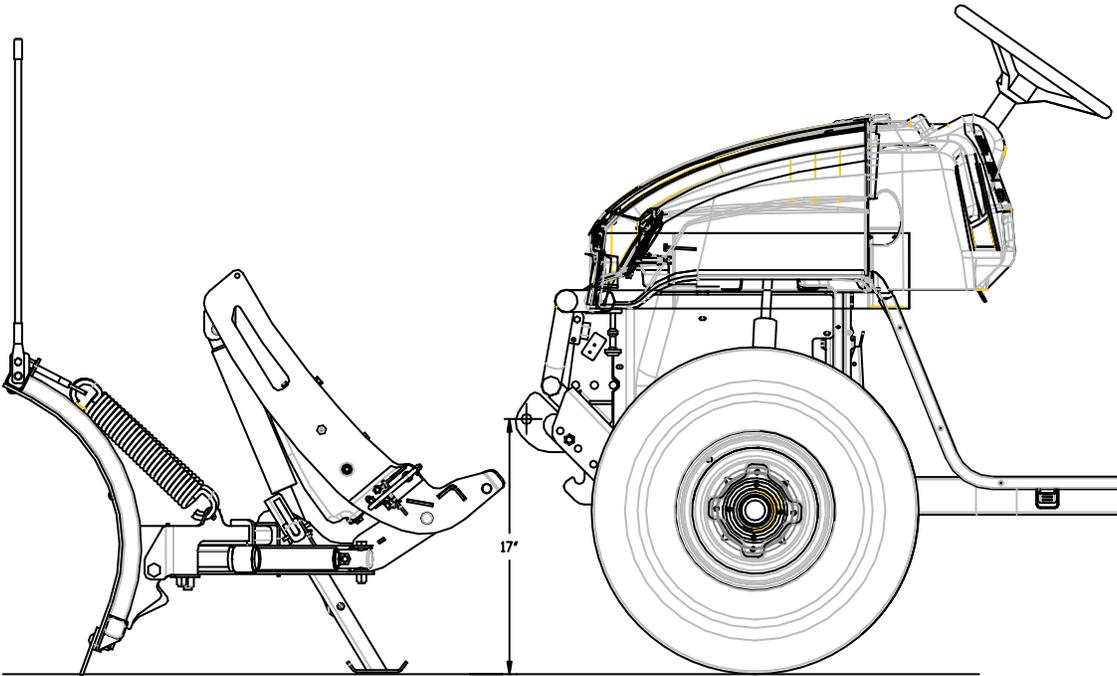

Figure 2
1. Align the holes in the Skid Plate Assembly (75) with the holes in the Front Bumper. Using (4) ½"-13 X 1-1/2" Hex Head Bolts (B) and ½" Nylon Lock Nuts (E), attach the Skid Plate. Leave finger tight.
2. On the bottom of the Skid Plate Assembly (75), mark where the two bolt holes meet with the bottom of the Front Bumper. Remove Skid Plate Assembly (75)
4. Align the holes in the Skid Plate Assembly (75) with the holes in the Front Bumper. Using (6) ½"-13 x 1-1/2" Hex Head Bolts (B), (2) 5/8"-11 x 1-1/2" Hex Head Bolts (A), (6) ½"-13 Nylon Lock Nuts (E), and (2) 5/8"-11 Nylon Lock Nuts (D), attach Skid Plate Assembly (75) to the Front Bumper.
5. Using (4) ½"-13 X 1-1/2" Hex Head Bolts (B), (4) ½"-13 Nylon Lock Nuts (E), (6) 3/8"-16 X 1" Hex Head Bolts (C), and (6) 3/8"-16 Nylon Lock Nuts (F), mount Pushbeam Assembly (62) between Mounting Tabs on Skid Plate Assembly (75).
NOTE: The proper height adjustment for the Pushbeam (62) is approximately 17" from the ground to the center of Pushbeam (62) pin-receiving hole (See Figure 2) for Plow System.